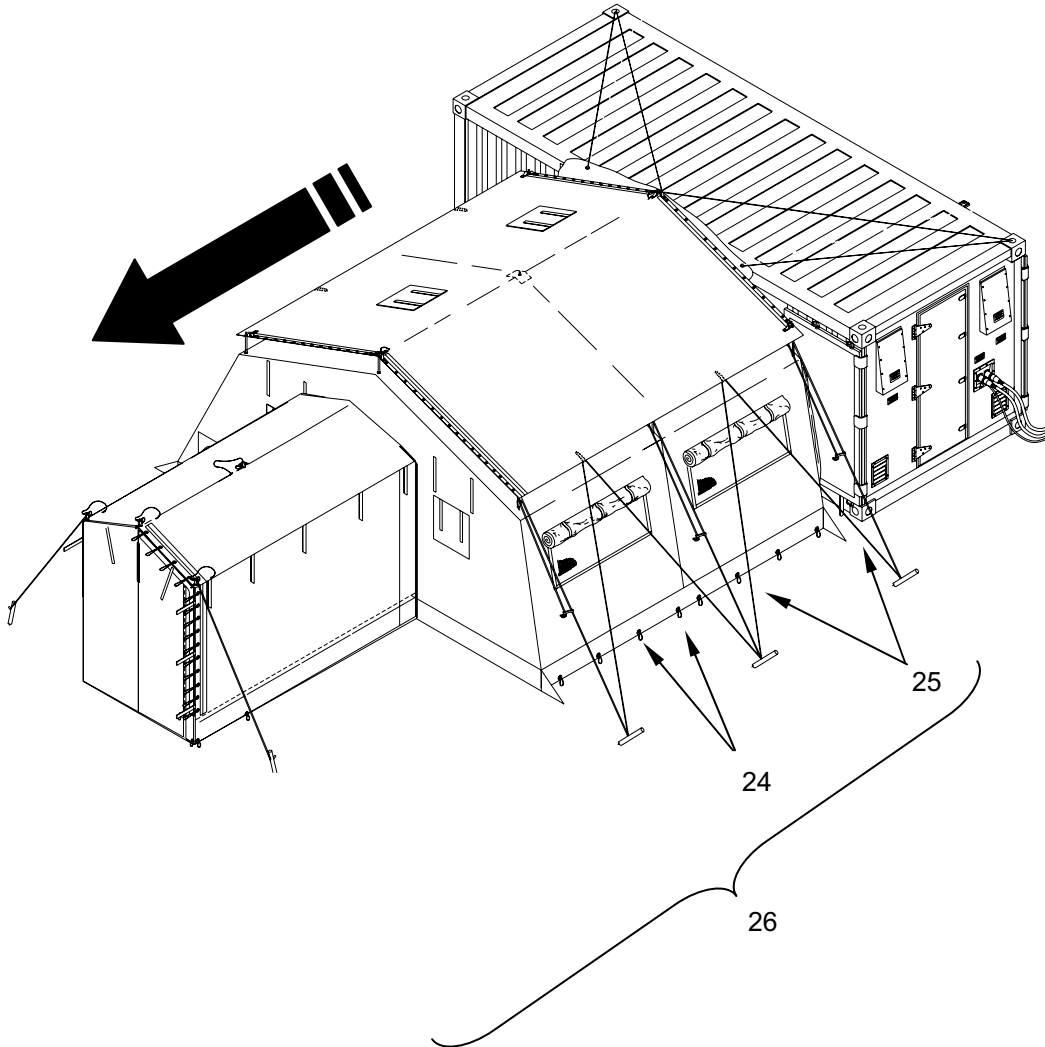

Figure 28. Move TEMPER during NBC Imminent or Actual Attack.
17. Cut (only during imminent attack) TEMPER foot loops (**Figure 28, Item 24**) and guy lines (**Figure 28, Item 25**).
18. Ensure tables and carts are moved to TEMPER endwall and to center in TEMPER interior, and move TEMPER tent (**Figure 28, Item 26**) away from the CBL a minimum of 6 ft.